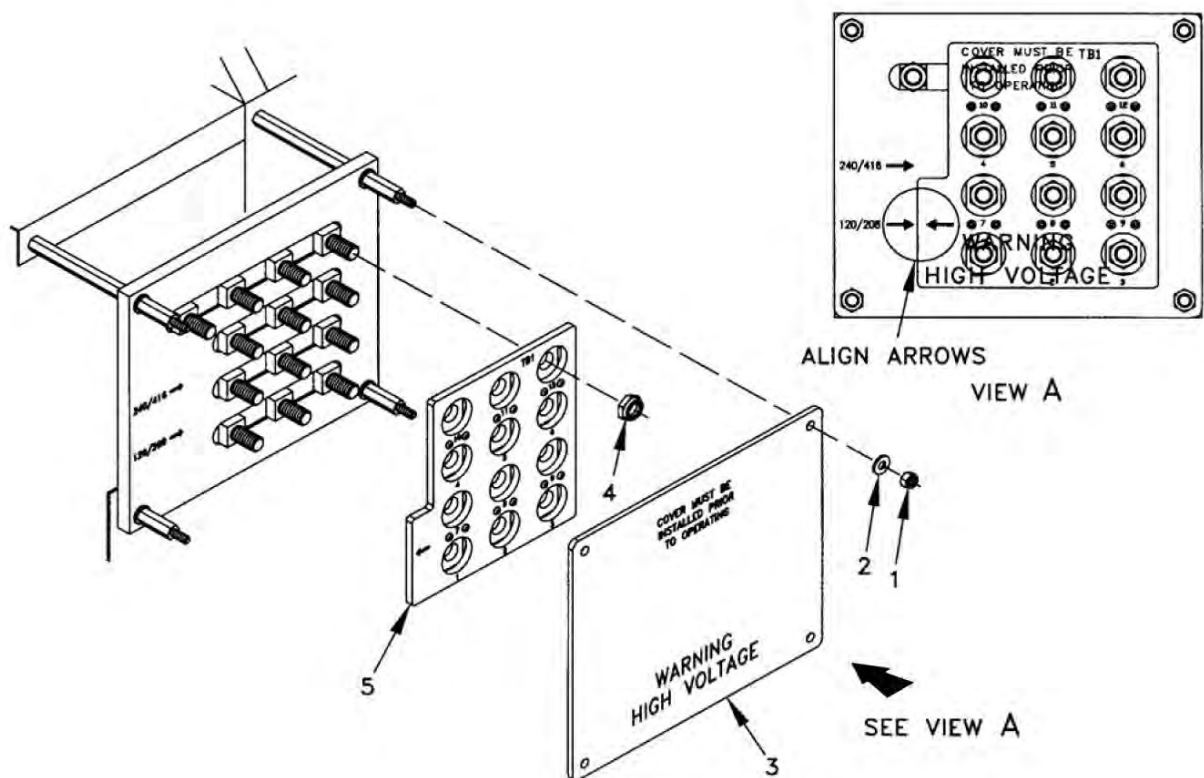

Figure 1. Reconnection Terminal Board Voltage Setting.
4. Remove four nuts (Figure 1, Item 1), washers (Figure 1, Item 2), and clear protective panel (Figure 1, Item 3) from reconnection board.
5. Remove 12 nuts (Figure 1, Item 4) and reconnection board (Figure 1, Item 5).
6. Align arrow on reconnection board (Figure 1, Item 5) with arrow on base corresponding to desired generator output voltage(s).
7. Install reconnection board (Figure 1, Item 5) and secure with 13 nuts (Figure 1, Item 4). Torque nuts to 20 ft•lbs (16 N•m)
8. Install clear protective panel (Figure 1, Item 3) and secure with four washers (Figure 1, Item 2) and nuts (Figure 1, Item 1).